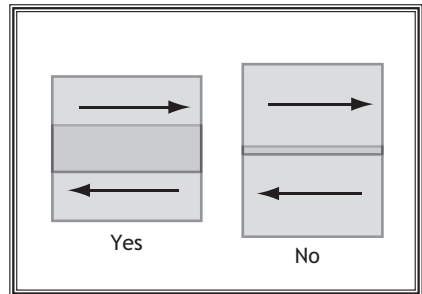

Figure 5. Overlap technique.
12. Overlap each stroke by 50%. This will ensure even coverage, as shown in **Figure 5**. Overlapping less than 50%, as shown in the figure to the right, may lead to missed spots or streaky results.